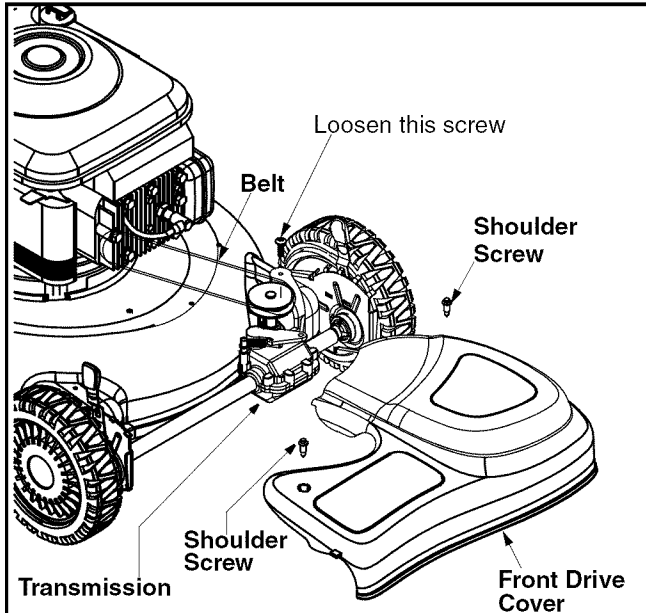

Figure 12
- Remove two shoulder screws securing the front drive cover to the mower deck. See Figure 12.
- Using a torx wrench, loosen the screw holding the belt tension spring to the transmission. See Figure 12. Do not remove the screw completely. As you loosen the screw, tension on the belt will release.